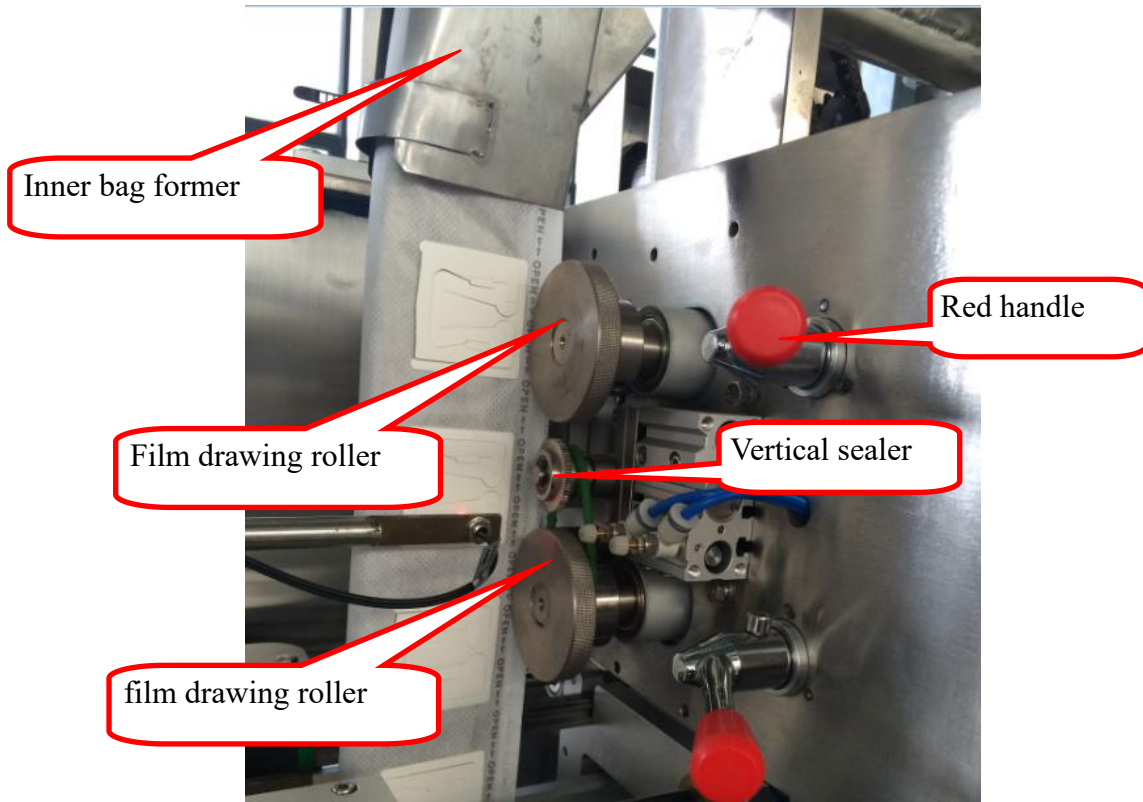

Fig. 3-4 Inner Film Drawing
4. Slide the inner film along the former into the vertical sealing roller, and adjust the red handles to open film drawing rollers, then to press against the film (see fig. 3-4).